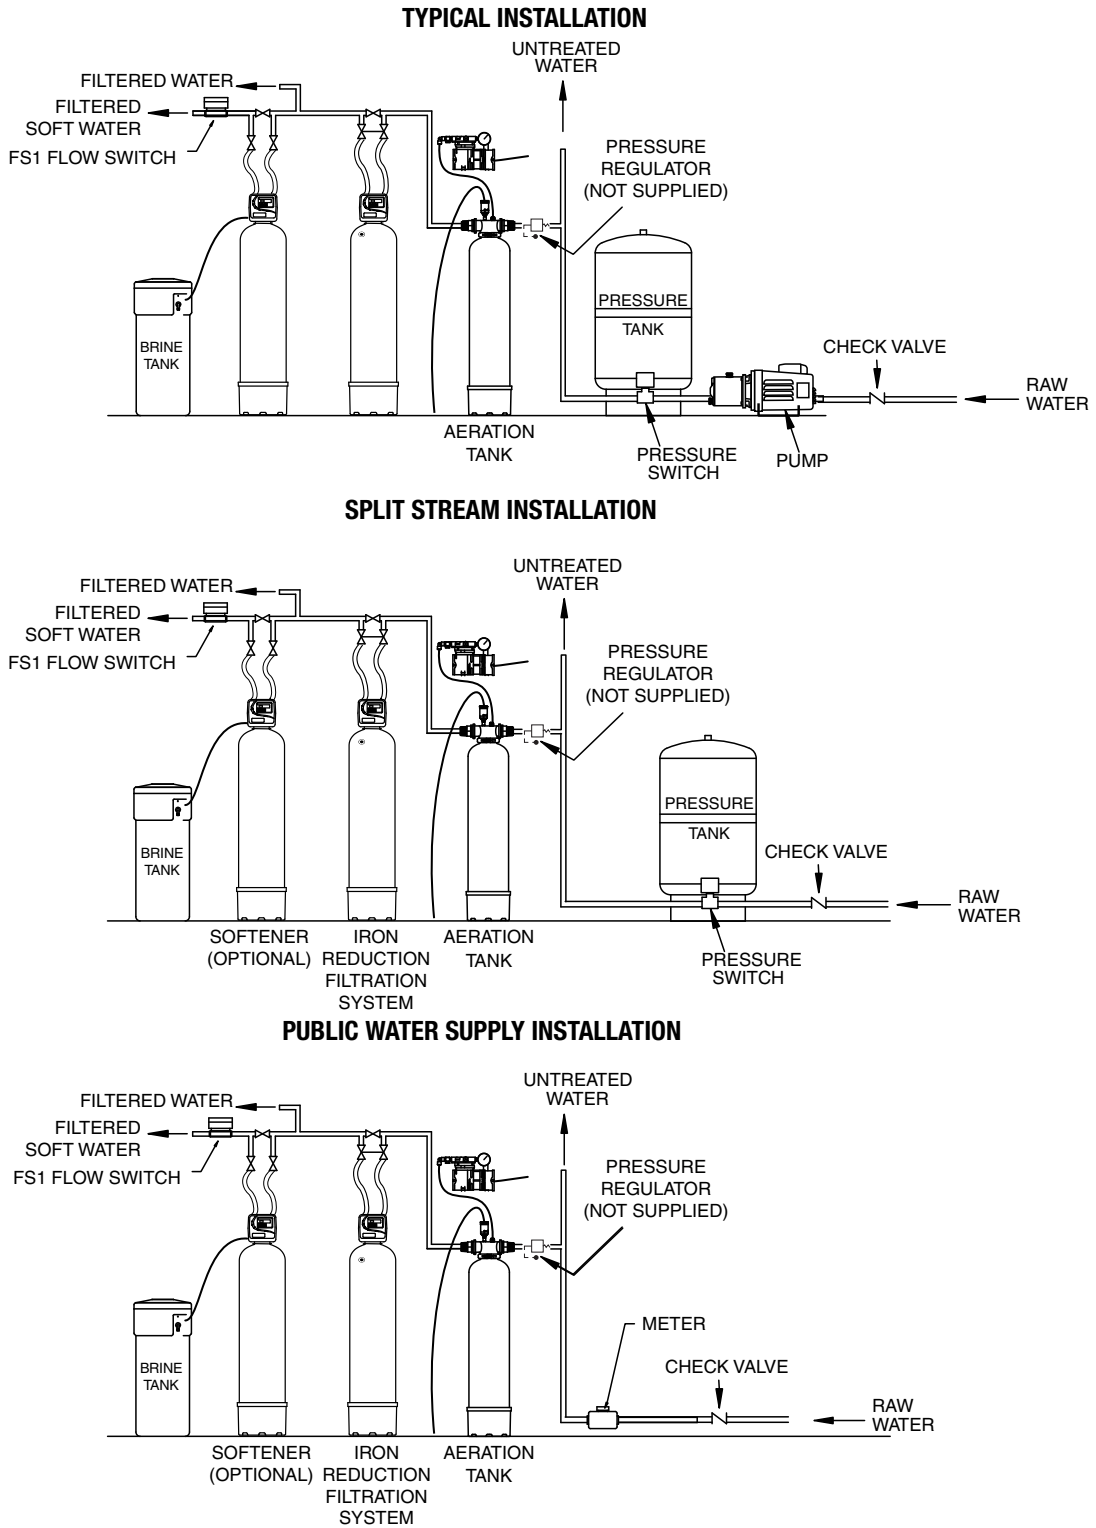
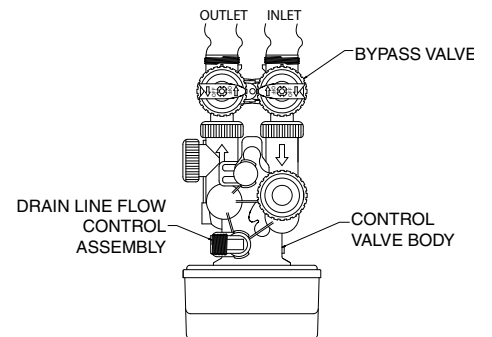

FIGURE 1
Figure 5
- 3) Locate in correct relationship to other water conditioning equipment (See Figure 1, in Section 3).
Before commencing the installation, it is advisable to study the existing piping system and to determine the size, number and type of fittings required. Typical system schematics shown in Figure 1 will be of assistance (page 3-1).
Locate the installation assembly packet and assemble as the enclosed instructions dictate, refer to Figure 5. Attach the bypass assembly and connection fitting to the control valve and hand-tighten only. Study the installation drawings provided (Figure 1, page 3-1) to determine the proper location of the filtration system in relation to the other components of the water system (i.e. 3MWTS water softener, or water heater, if present) and install appropriately.